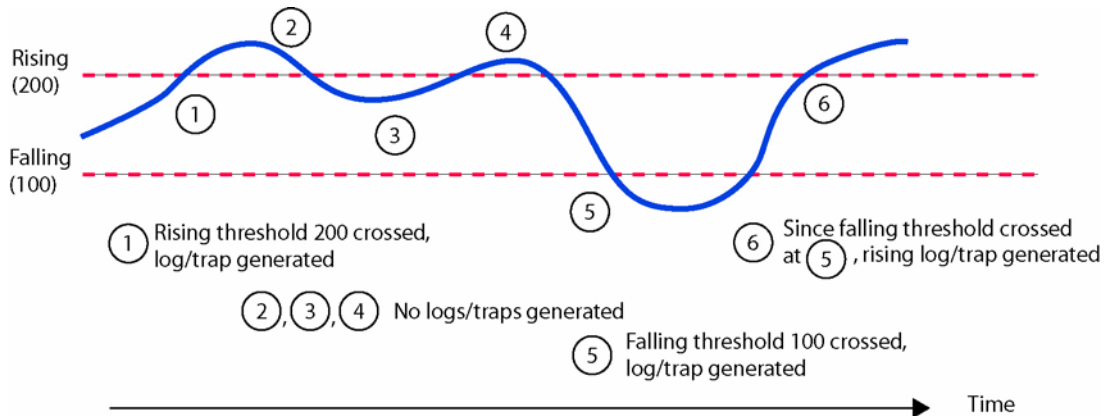

FIGURE 11-2 Thresholds for RMON Statistics
- During the time interval, once the falling threshold is crossed, the rising threshold trap/log is produced again (this is explained in Figure 11-2).
Figure 11-2 shows how the rising and falling thresholds work for the RMON statistics.